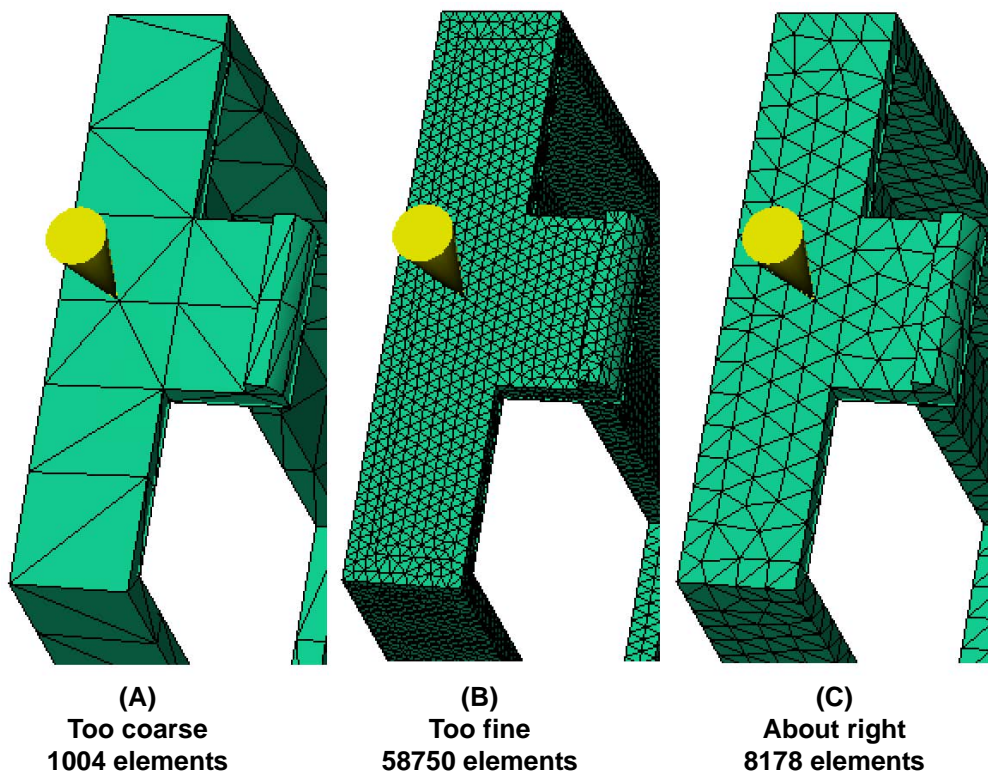

Figure 140: Visual inspection of the part
The first step is to visually look at the mesh. This is the best way to determine if there is an adequate mesh density on the part to capture thickness changes. It also is an easy way to get a sense if the mesh density is about right or not. In Figure 140, the same part is meshed at 3 significantly different densities. It is difficult to judge the entire part based on this small area, but the mesh on part (A) has only 1004 elements. This mesh is a bit coarse for the part. This is a Fusion model. The match ratio will be a little low and this part may not represent the thickness changes well. Part (B) has 58750 elements, many more elements than is necessary. The main problem here is compute time. Part (C) has about the right number of elements. There are several rows of elements up the side, and the elements are mostly equilateral or close to it. This mesh has 8178 elements. The analysis time for part (A) is under one minute, part (B) is over 4 hours, and part (C) takes under 10 minutes. The pressure prediction between the second and third parts is under 3%. Just looking at these parts, part (B) can be ruled out as too many elements, and by inspecting the whole part it is clear that part (A) is not good either.